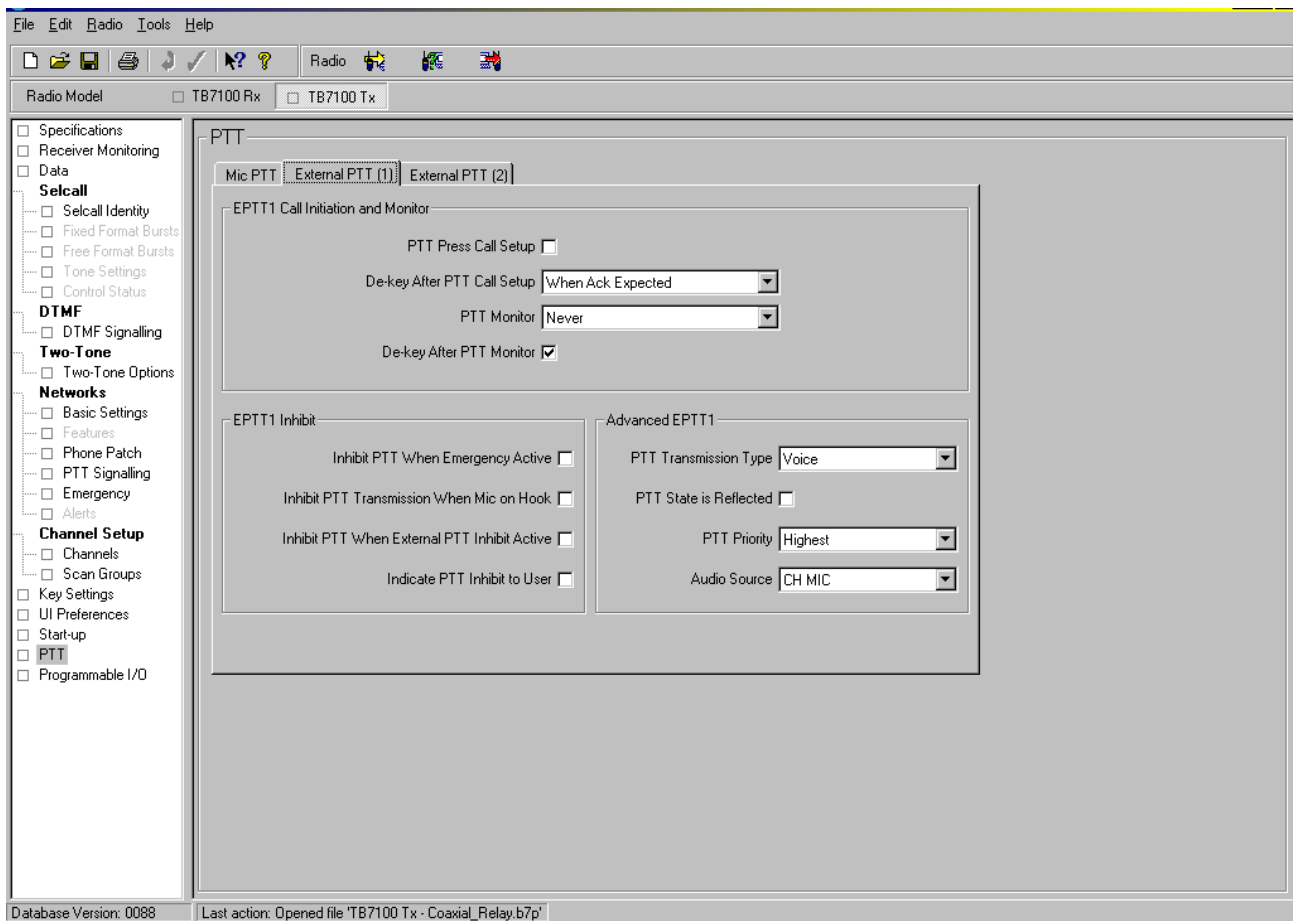

Figure 4
Figure 4 shows the 'external PTT (1)' field, of the 'TB7100 programming application' for the transmitter, that shows these settings.